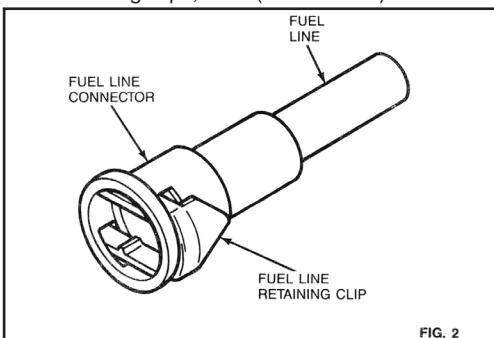

FIG. 2
- B) Referring to Fig. 2, install the new fuel line retaining clips, 5/16"(natural/clear) and 3/8" (black), into their respectively sized fuel line connector with the triangular end on the clip facing away from the fuel line connector opening.